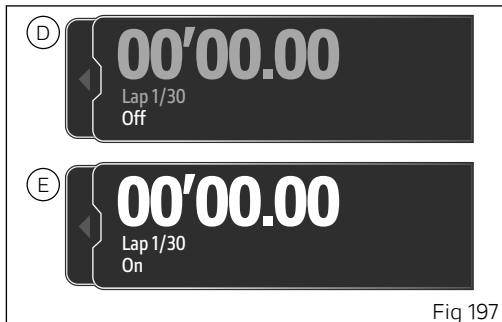

Fig 197
- If the function is disabled, "Off" is shown in white with the stopwatch and indication of the available laps in grey (D, Fig 197); press ENTER to enable the function.
- If the function is enabled, "On" is shown with the stopwatch and indication of the available laps in white (E, Fig 197); press ENTER to disable the function.